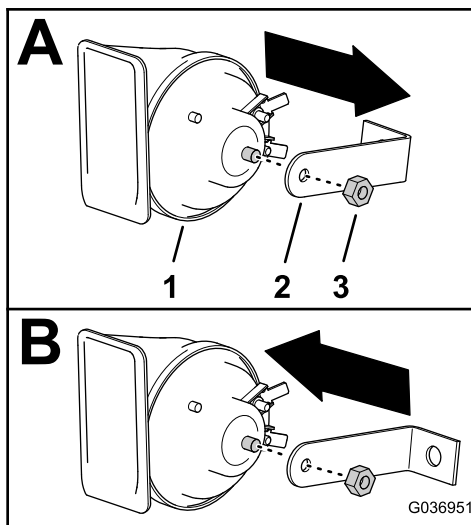

Figure 20
2. Rotate the 90° bracket as shown in Figure 20 and loosely secure it to the mounting stud of the horn assembly with the nut that you removed in step 1.
1. Remove the nut and 90° bracket from the horn assembly (Figure 20).
3. Tighten by hand the nut that secures the horn to the 90° bracket; refer to Figure 20 in 7 Installing the Horn (page 11).